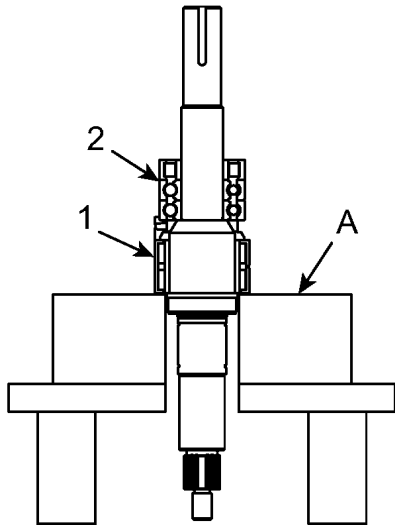

Figure 268 - Press bearings off shaft
- Use a hydraulic press and V-blocks (Figure 268, item A) to remove the bearings (Figure 268, items 1 and 2) and gear spacer (on drive shaft only, not shown).